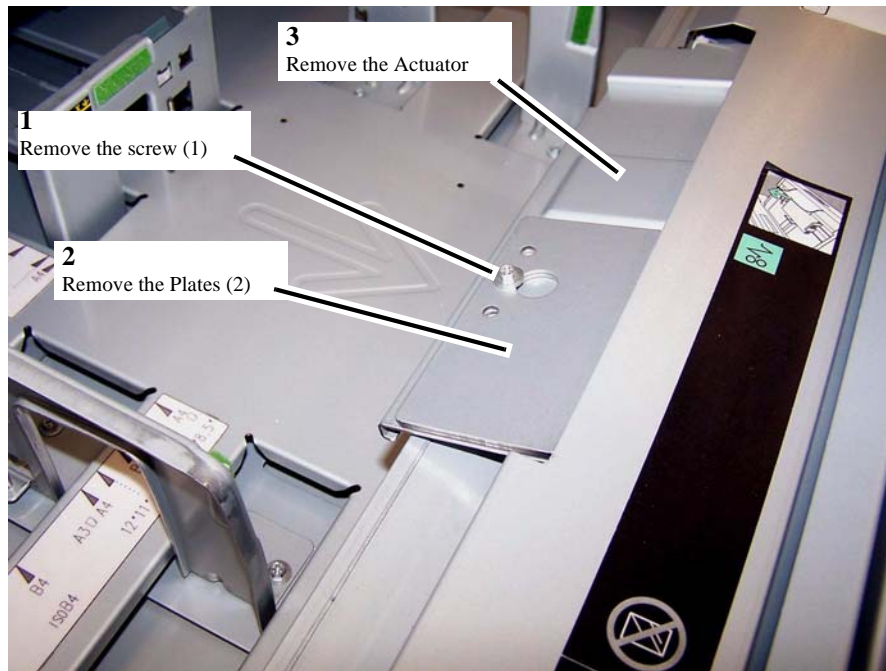

Figure 1 Removing the Actuator
4. Remove the Actuator (Figure 1).